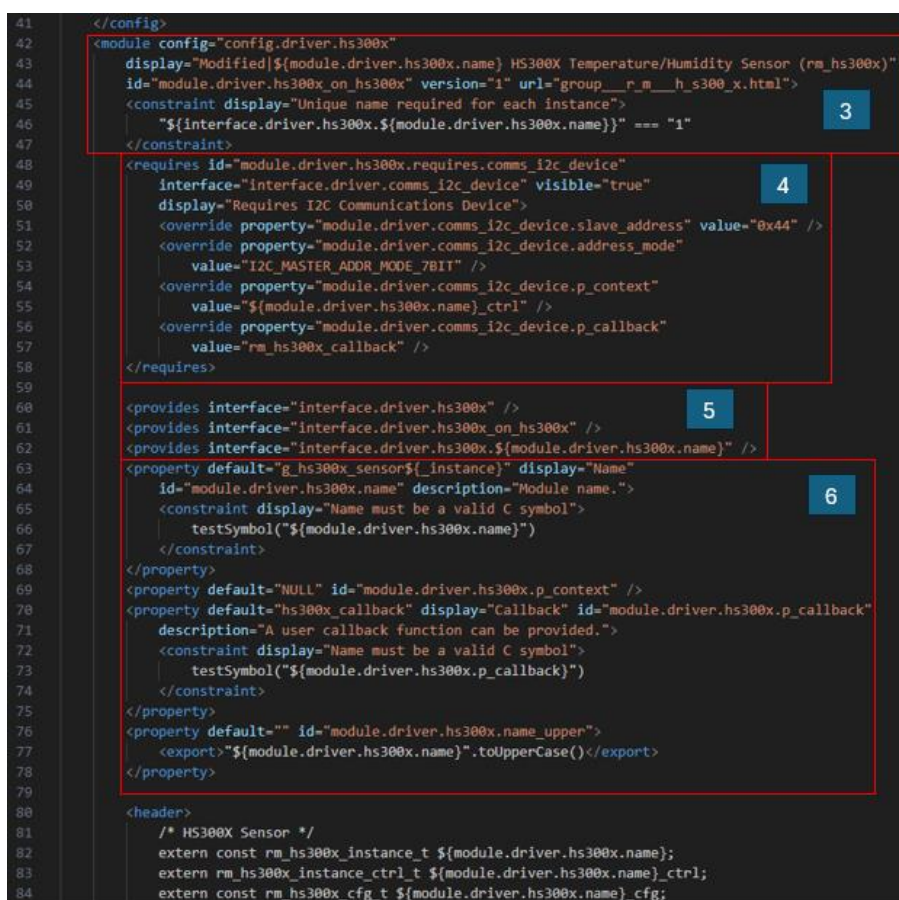
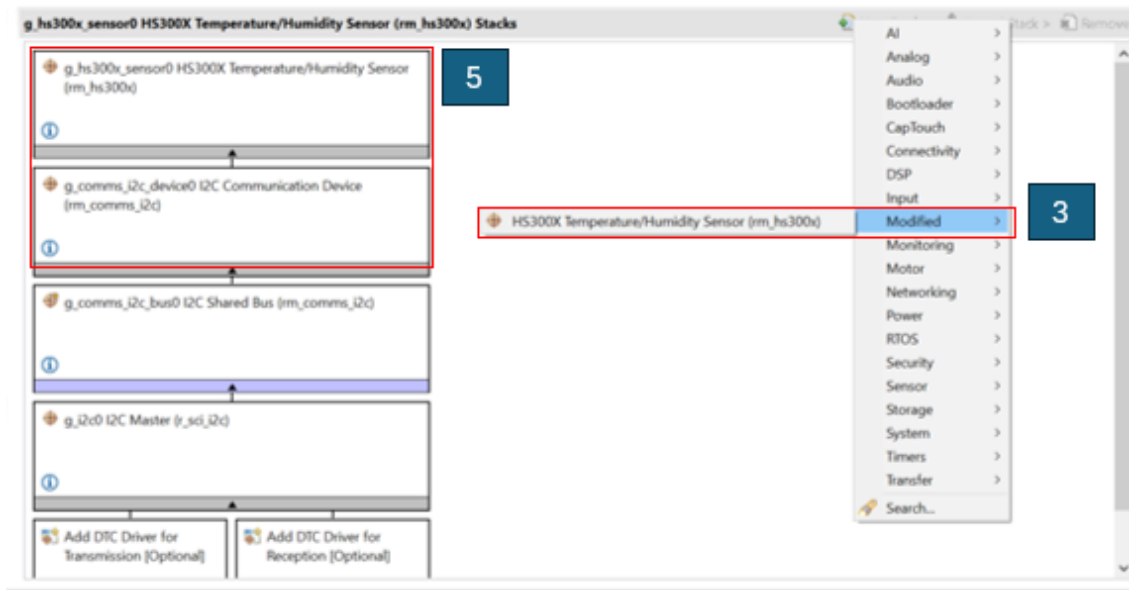
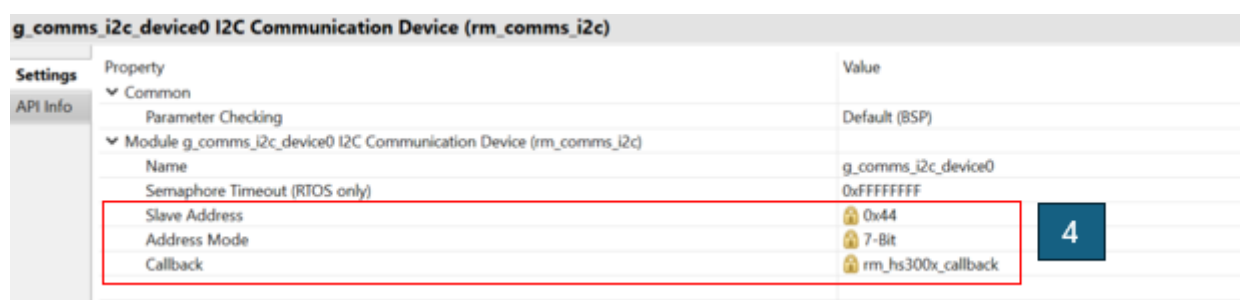

Figure 31. HS300x Module Description Resource Configuration Code
Figure 32. e² Studio Stack Selection GUI
Figure 33. e² Studio I2C Configuration GUI
Figure 31, Figure 32, Figure 33, and Figure 34 show the HS300x module description code related to resource configuration and naming as well as the corresponding e² studio output.
The resource and naming configuration code is contained within the <module> element as seen in block 3 of Figure 31. The module element has the following attributes: *config*, *display*, *id*, *version*, and *url*. To work with your module these attributes should be modified as follows:
- The display attribute tells e² studio where to store the FSP module in the stack window. In the HS300x example, *display*="Modified | \${module.driver.hs300x.name} HS300X Temperature/Humidity Sensor (rm_hs300x)" tells e² studio to place the module under the *Modified* tab and names it accordingly as seen in Figure 32. If your module is a sensor then change *Modified* to *Sensor*, otherwise identify the proper section your module should be under and name it accordingly. Change *module.driver.hs300x.name* to *module.driver.your_module_name.name*. Finally, modify the remaining text to a name that suits your module/sensor.
- The *url* generates a link to the FSP module website which provides detailed information on the FSP module. This link can be seen in Figure 32, denoted by the blue "1" inside the blue circle in the stack window. This attribute can be removed until an information site is created for your module.
- If your device requires an I²C connection then the *interface*, *visible*, and *display* attributes can remain as shown in Figure 31, block 4.
The *<provides>* element, as seen in block 5 of Figure 31, simply generates the stacks in the e² studio stack window shown in block 5 of Figure 32. Replace any instance of *hs300x* with *your_module_name*.
The *<property>* elements in this section, shown in block 6 of Figure 31, generate the instance name and callback name when the module is added to the stack configuration window. Figure 34 shows the corresponding e² studio configuration window.